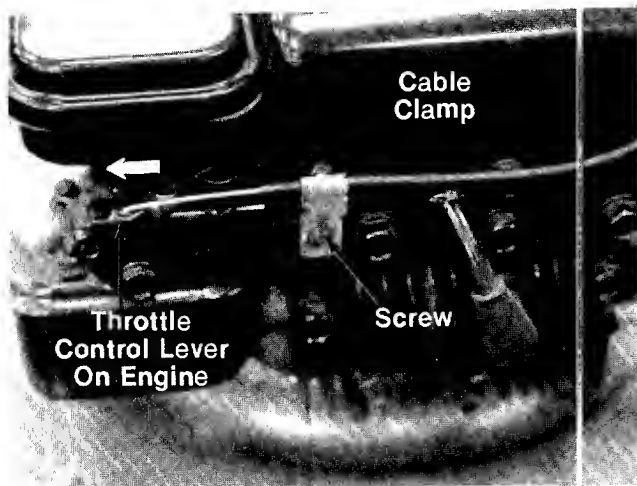

FIGURE 7.
10. Push the throttle control lever on the engine to the full open position (as far toward the outside of the unit as it will go) as shown in figure 7.
12. Remove the screw on the cable clamp shown in figure 7. Slip the control casing under the clamp. With the throttle lever on the engine still in the full open position, replace and tighten the screw to secure the throttle control cable.